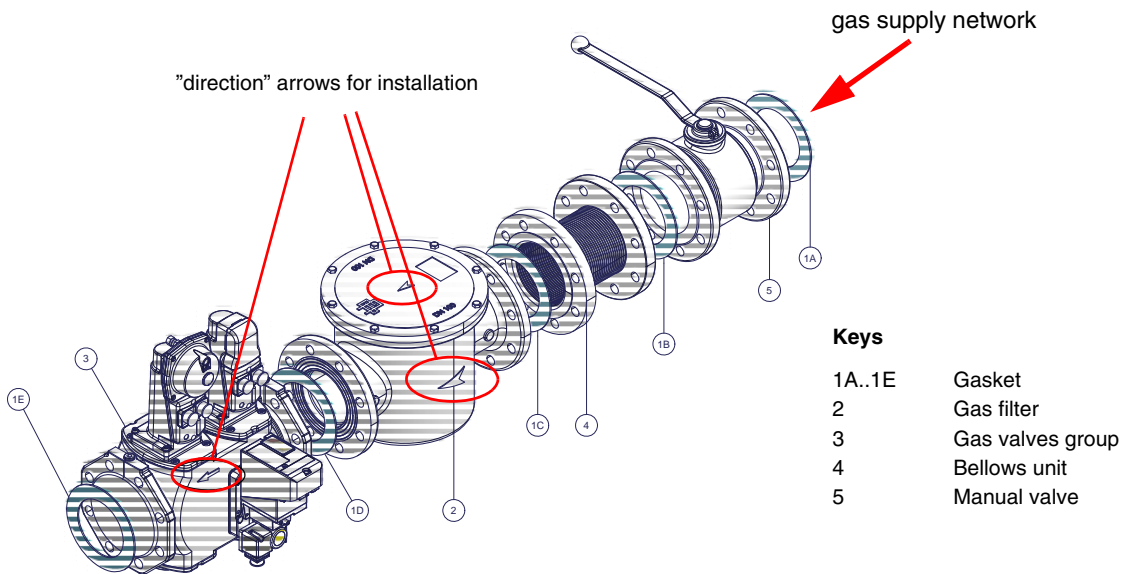

Fig. 8 - Example for gas train
- 1-b) in case of flanged joints: place a gasket (no. 1A..1E - Fig. 8) between the items
**ATTENTION:** once the gas train is mounted according to the diagram on Fig. 8, the gas proving test must be performed, according to the procedure set by the laws in force.